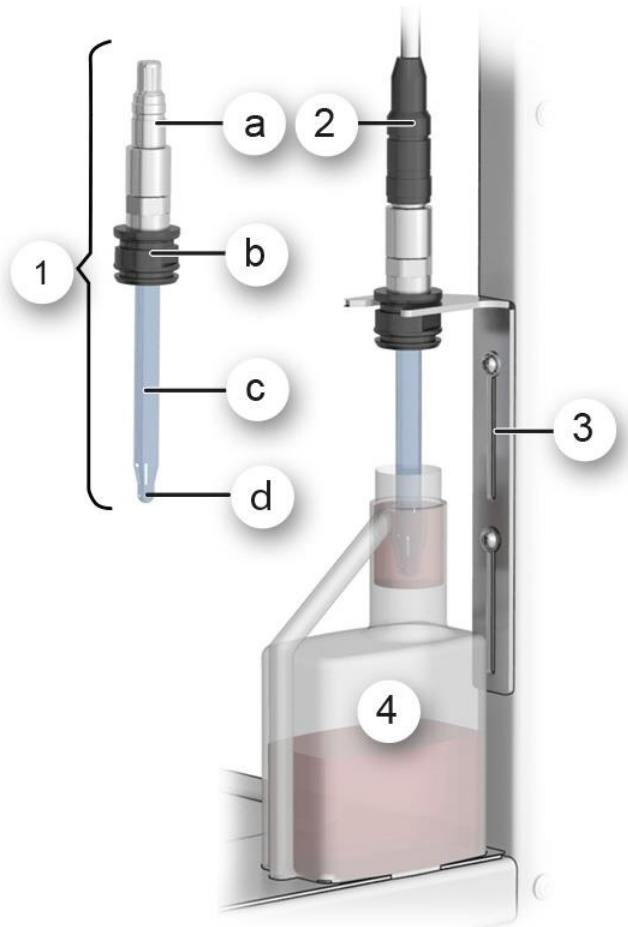

Figure 31: Overview of calibration
2.	Remove the pH sensor according to Section 4.3.1 and position it in the slide holder (Figure 31).